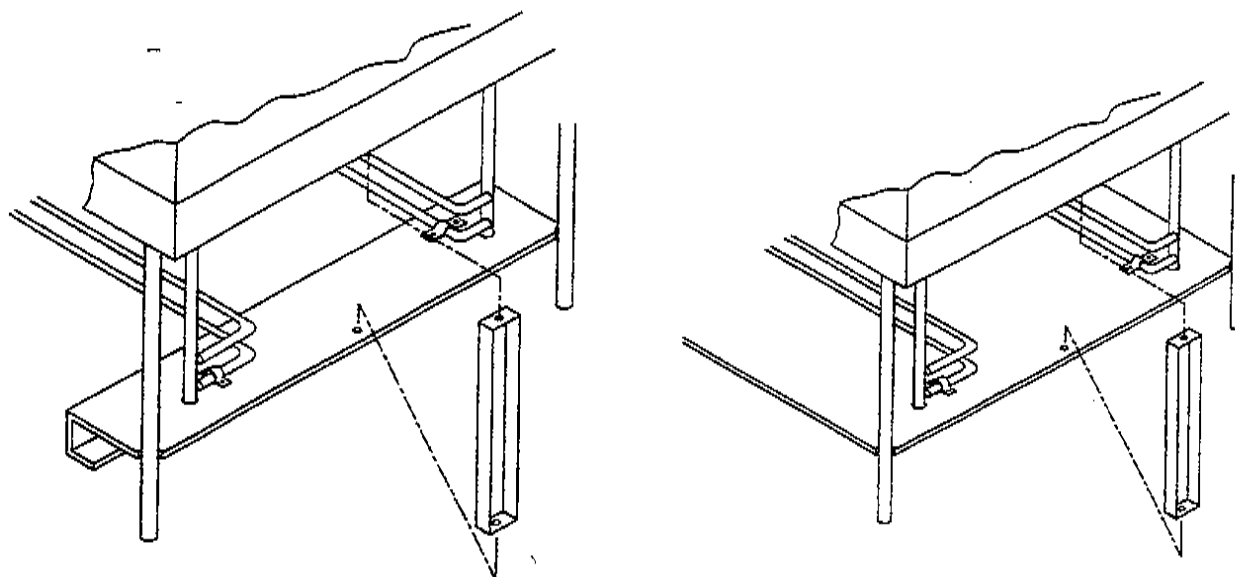

FIGURE 18
7. Install rack stop to rear frame hanger and rear of bottom shelf, or rear channel frame. Refer to figure 18.